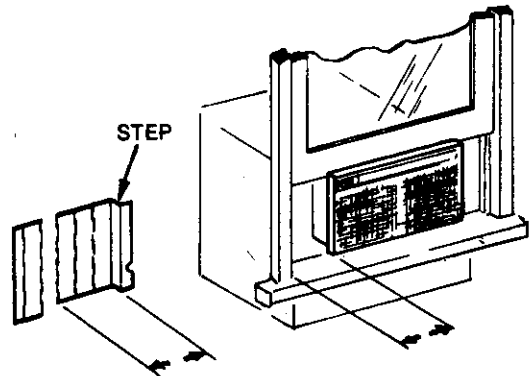

FIGURE 3
PUT PANELS IN WINDOW (Figure 3)
14. Put in the left panel first. See figure 3.